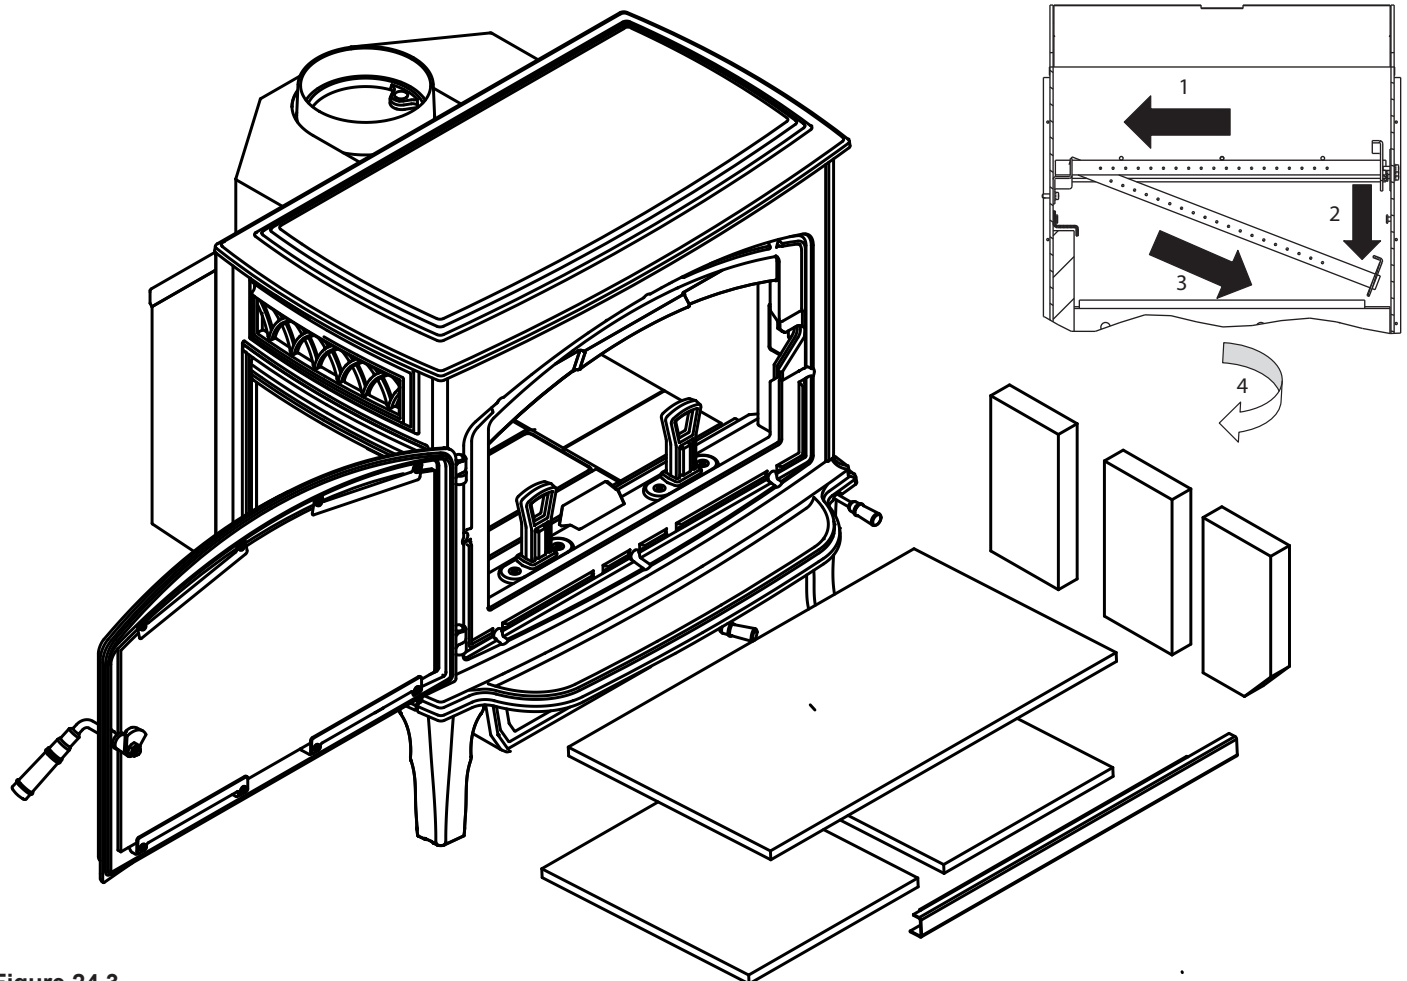

Figure 24.3
4. Slide the tube channel assembly all the way to left until it is off the threads. Drop the right side down, then slide the assembly back to right (Figure 24.3).